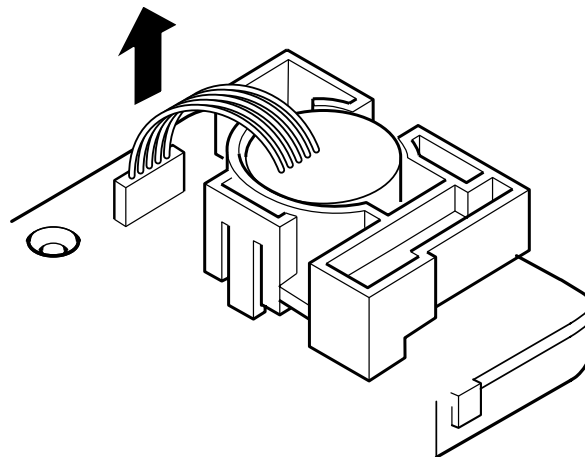

Figure 6: Buffer Resistor Assembly Cable removal
6. Figure 6 Remove the Buffer Resistor Assembly Cable from the Cable Clamp
7. Figure 6 Unclip the bumper recess assembly from the R/C